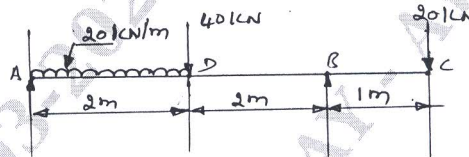

Fig.Q5(b)
b. Draw bending moment and shear force diagram for the beam shown in Fig.Q5(b). Clearly indicate the point of contraflexure. (14 Marks)